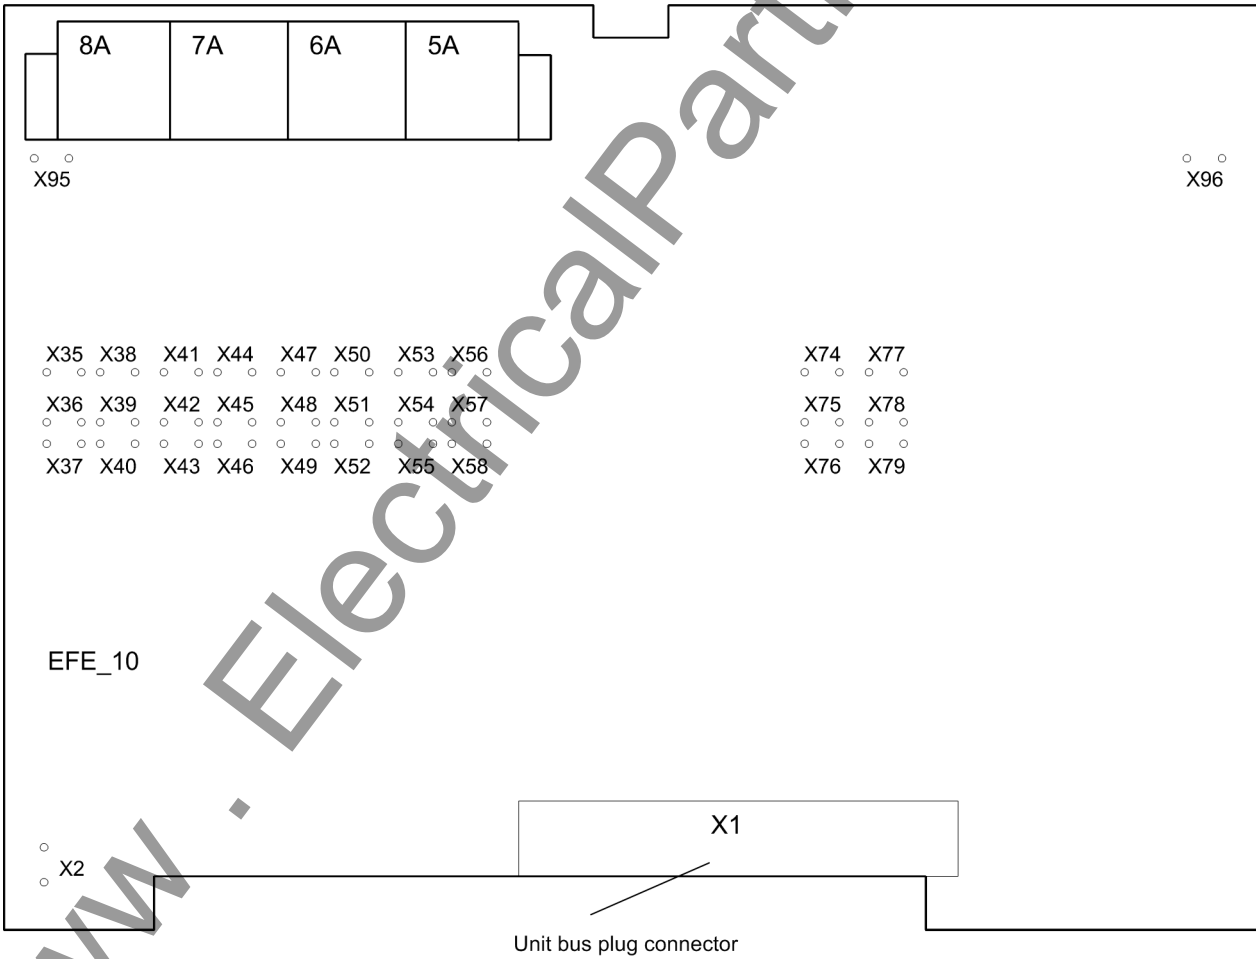

Figure 3-4 Location of the jumpers on the EFE_10 module (bay unit 7SS525)
- ❑ Remove the plug connector X1 to the front plate on the EFE_10 module (Figure 3-4, page 36) and pull out the module.
- ❑ Change the rated control voltages of the binary inputs to the desired settings, see Figure 3-4, page 36 and Table Table 3-4, page 37.